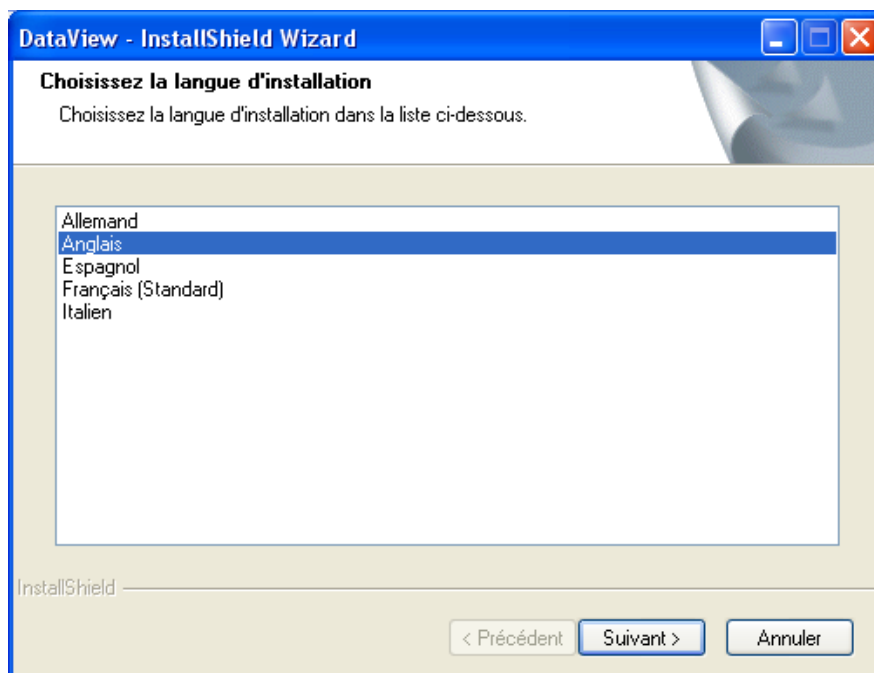

Figure 1-1
2. An installation choice window opens, identical to the one in figure 1-1 below: